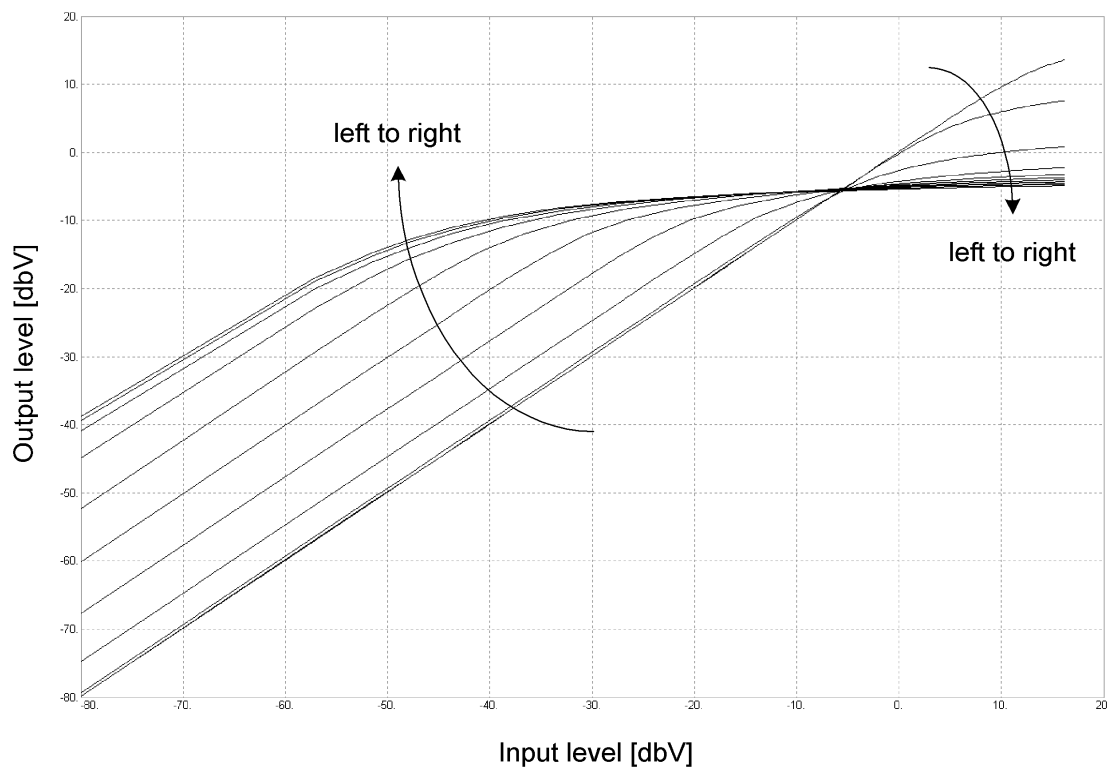

Fig.8.2.1 [compression]-knob
Fig. 8.2.1 shows what happens when the [**compression**]-knob (3) is turned clockwise.